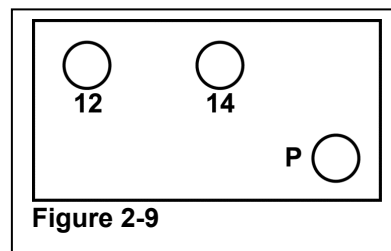

Figure 2-9
- Step 3. Wipe the mounting surfaces with a damp cloth. Align the air outlet with the inlet on valve cap and attach control module to the valve cap with the four (4) provided bolts. Torque to 5 ft/lbs [6.8nm].
- Step 4. Connect one hose to the right side fitting (14) on the manifold, connect opposite end to right "OUT" port on the pendant. (See Figure 2-9)
- Step 5. Connect second hose to left side fitting (12) on the manifold, connect opposite end to "OUT" port on the pendant. (See Figure 2-9)
- Step 6. Connect the third hose to the far right fitting (P) on the manifold, connect the opposite end to the center "IN" port on the pendant. (See Figure 2-9)